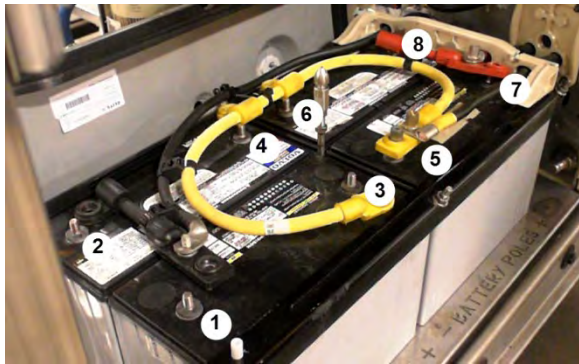

FIGURE 33: DISCONNECT 8 CABLE TERMINALS
3. Using a 9/16 hex socket box, disconnect the eight (8) battery cable terminals (**Figure 33**).